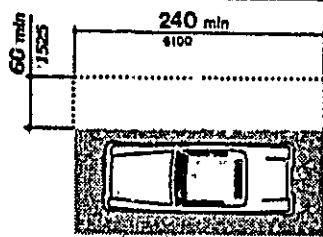

Fig. 10
4.6.5 Passenger Loading Zones. Passenger loading zones shall provide an access aisle at least 60 in (1525 mm) wide and 20 ft (6 m) long adjacent and parallel to the vehicle pull-up space (see Fig. 10). If there are curbs between the access aisle and the